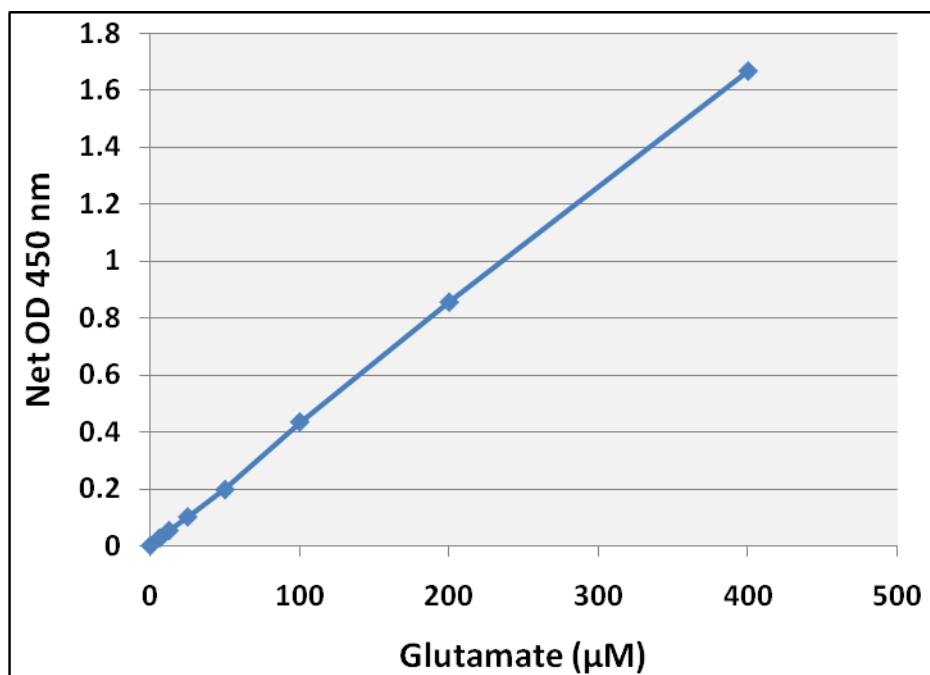

Figure 2. Glutamate Standard Curve.
3. Graph the standard curve (see Figure 2).